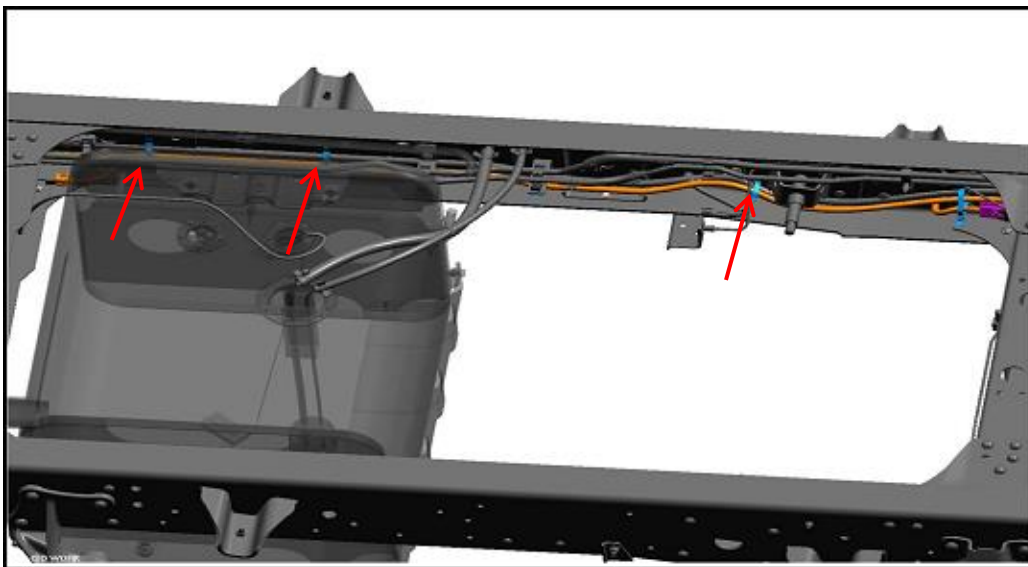

Figure 41
5. Pull any excess harness towards the front of the vehicle. Secure the DFT harness to the chassis harness with three (3) tie-straps, between the in-rail tank and cross-member. (See Figure 41.)